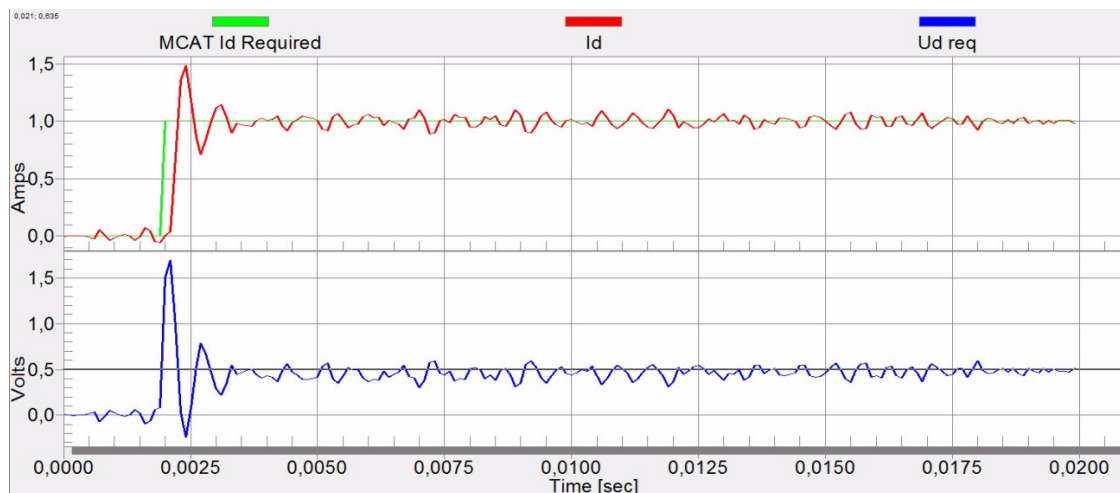

Figure 9. Fast Step Response of Id Current Controller
- Loop bandwidth is high (500 Hz) and the response time of the Id current is very fast, but with oscillation and overshoot, see Figure 9.